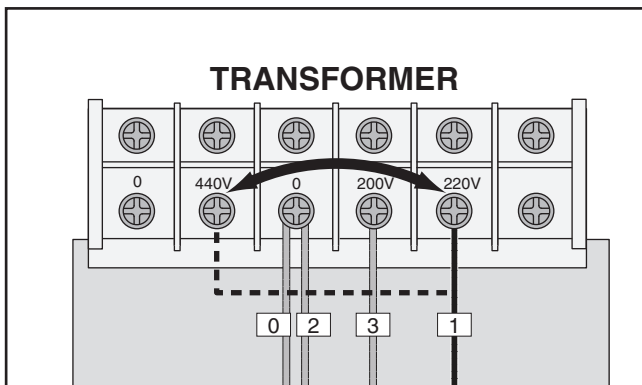

Figure 7. The "1" wire should be connected to the 440V terminal.
3. Remove the wire labeled "1" at the 220V terminal of the control power transformer (see **Figure 7**) and connect it to the 440V terminal.